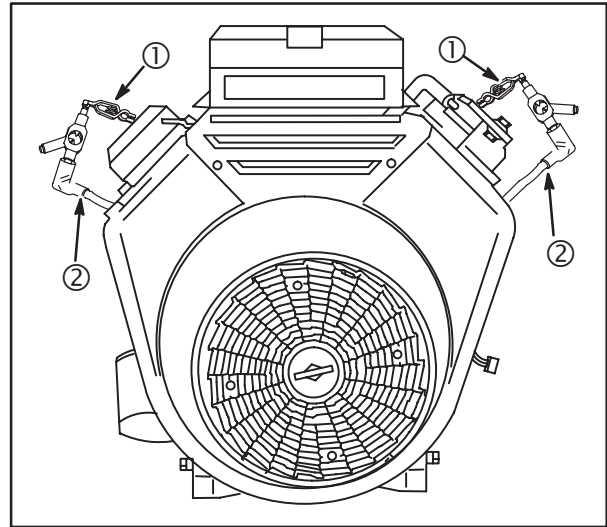

Fig. 1
With spark plugs installed, attach Ignition Tester #19368 (1) to each spark plug (2). Ground the other end of the tester as shown, **Fig. 1**. Spin the flywheel rapidly with engine starter. If spark jumps the tester gap the ignition system is working correctly.